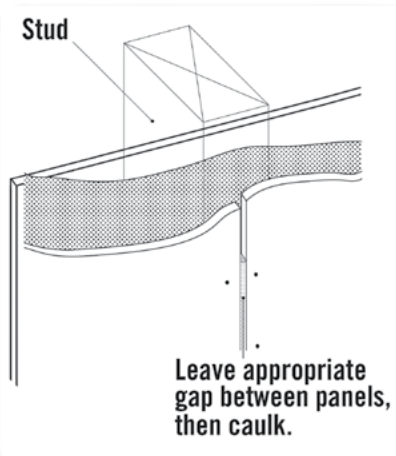

Fig. 12.2
- Leave appropriate gap and caulk according to caulk manufacturer's recommendations. (Fig. 12.2)